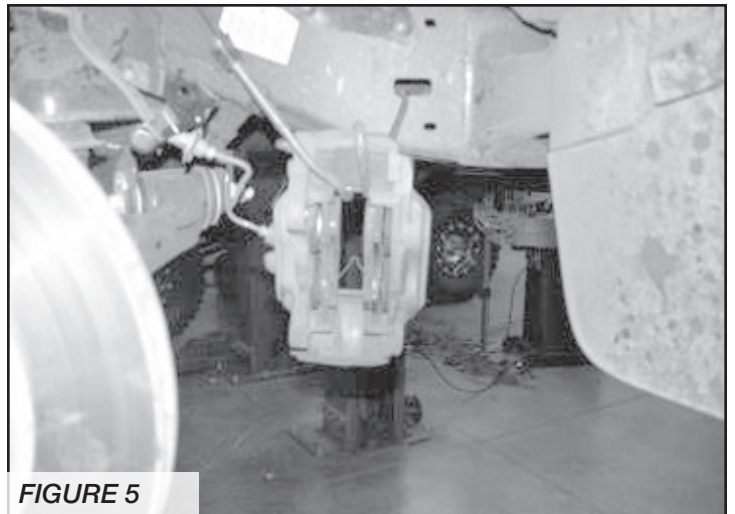

FIGURE 5
6. Remove the brake caliper from the steering knuckle and hang out of the way. Do not allow the brake caliper to hang from brake line. Remove the brake line brackets from the knuckle. Trucks equipped with ABS brakes, unbolt the ABS line and disconnect from steering knuckle and the upper control arm. Remove the bracket from the ABS line and discard. **SEE FIGURE 5**